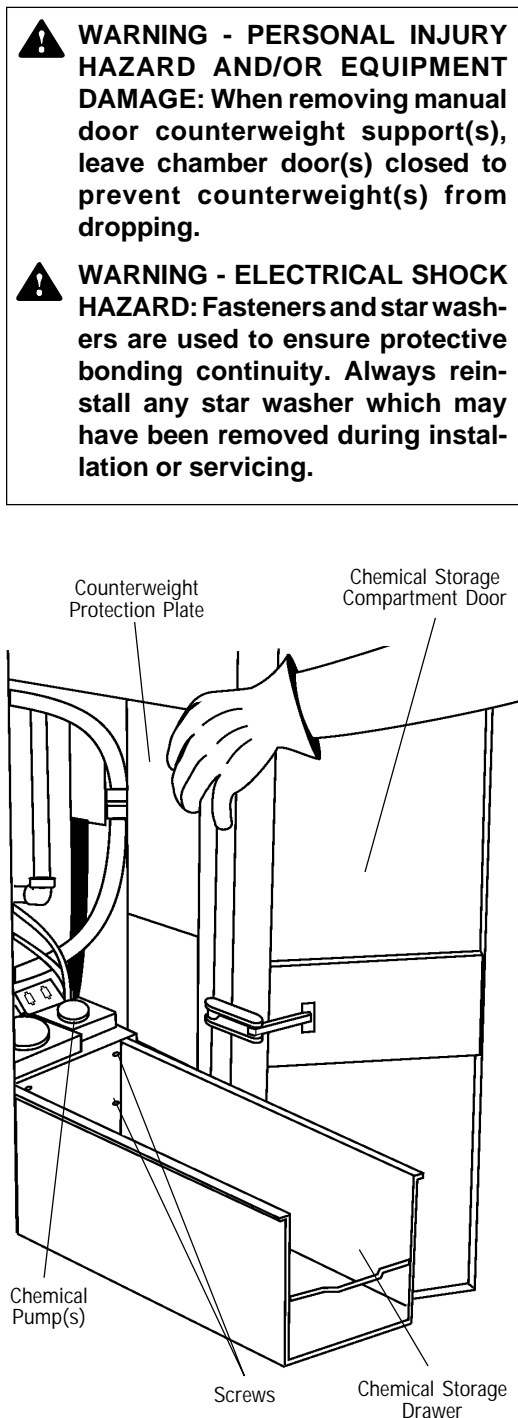

Figure 2-9. Pull Storage Drawer Out and Remove Counterweight Protection Plate
- Insert quick release pin into safety door stop (see Figure 2-9).
NOTE: Flip bottom corner silicone gasket towards the front before lowering door on safety door stop (see Figure 2-9).
- a. Open the control service panel and chemical storage compartment doors (see Figure 2-9).
- b. Locate chemical pump(s) attached to back of chemical storage drawer (see Figure 2-9).
- d. Remove four screws attaching back of the chemical storage drawer to the lower pump support (see Figure 2-9).
5. Pivot contactor box outwards to access the lower utility connections (see Figure 2-9).